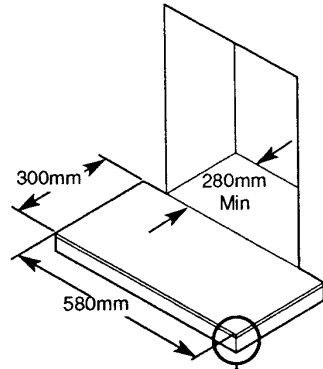

Fig. 6
1. The fire is intended to be hearth mounted only. The hearth must be of a non-combustible material at least 13mm ( 1/2 in) thick and measuring at least 300mm (11 3/16 in) deep by 580mm (22 27/32 in) wide. It must be fitted central to the fireplace opening. The top surface of the hearth should be a minimum of 50mm (2 in) above floor level (Fig. 6).